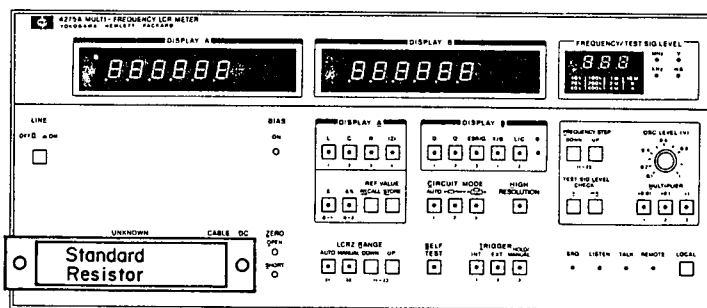

Figure 4-5. Resistance Accuracy Test Setup.
3. Connect 100Ω standard resistor direct to UNKNOWN terminals as shown in Figure 4-5.